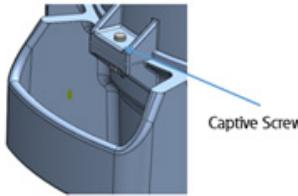
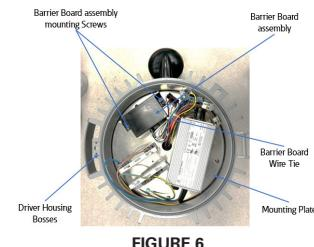

FIGURE 1
FIGURE 6
1. To gain access to the driver compartment, separate the luminaire from the top hat by loosening the  $\frac{1}{4}$ -20 slotted head captive screw (See Figure 1).
8. Secure the barrier board wires connected to controller board with cable tie (See Figure 6) to avoid interference between cover and housing.
9. Reinstall and secure the luminaire to the top hat prior to re-energizing the luminaire. Tighten back the captive screw to top hat by applying torque of 30 in-lbs. (3.4 N-m). See Figure 1. Ensure two (2) bosses on driver housing are in contact with Top hat (See Figure 6 & 7).
2. To gain access to the driver compartment, separate the luminaire from the top hat by loosening the  $\frac{1}{4}$ -20 slotted head captive screw (See Figure 1).
3. Release the barrier board wires by carefully cutting barrier board cable tie, taking care not to damage wire insulation. (See Figure 6)